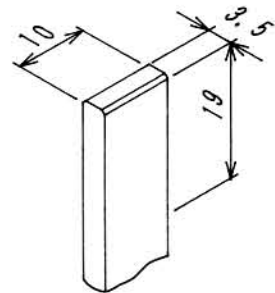
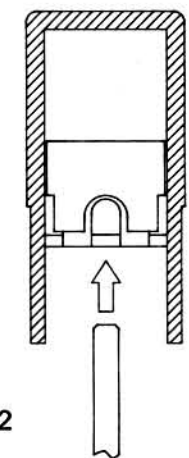

Fig.1
Fig.2
- 2) For adjusting the key arrangement, insert the tool shown in Fig.1 into the groove key guide as shown in Fig.2 and 3, and wrench the groove toward the desired moving direction. (After this adjustment lift each, and check if key moves normally.)